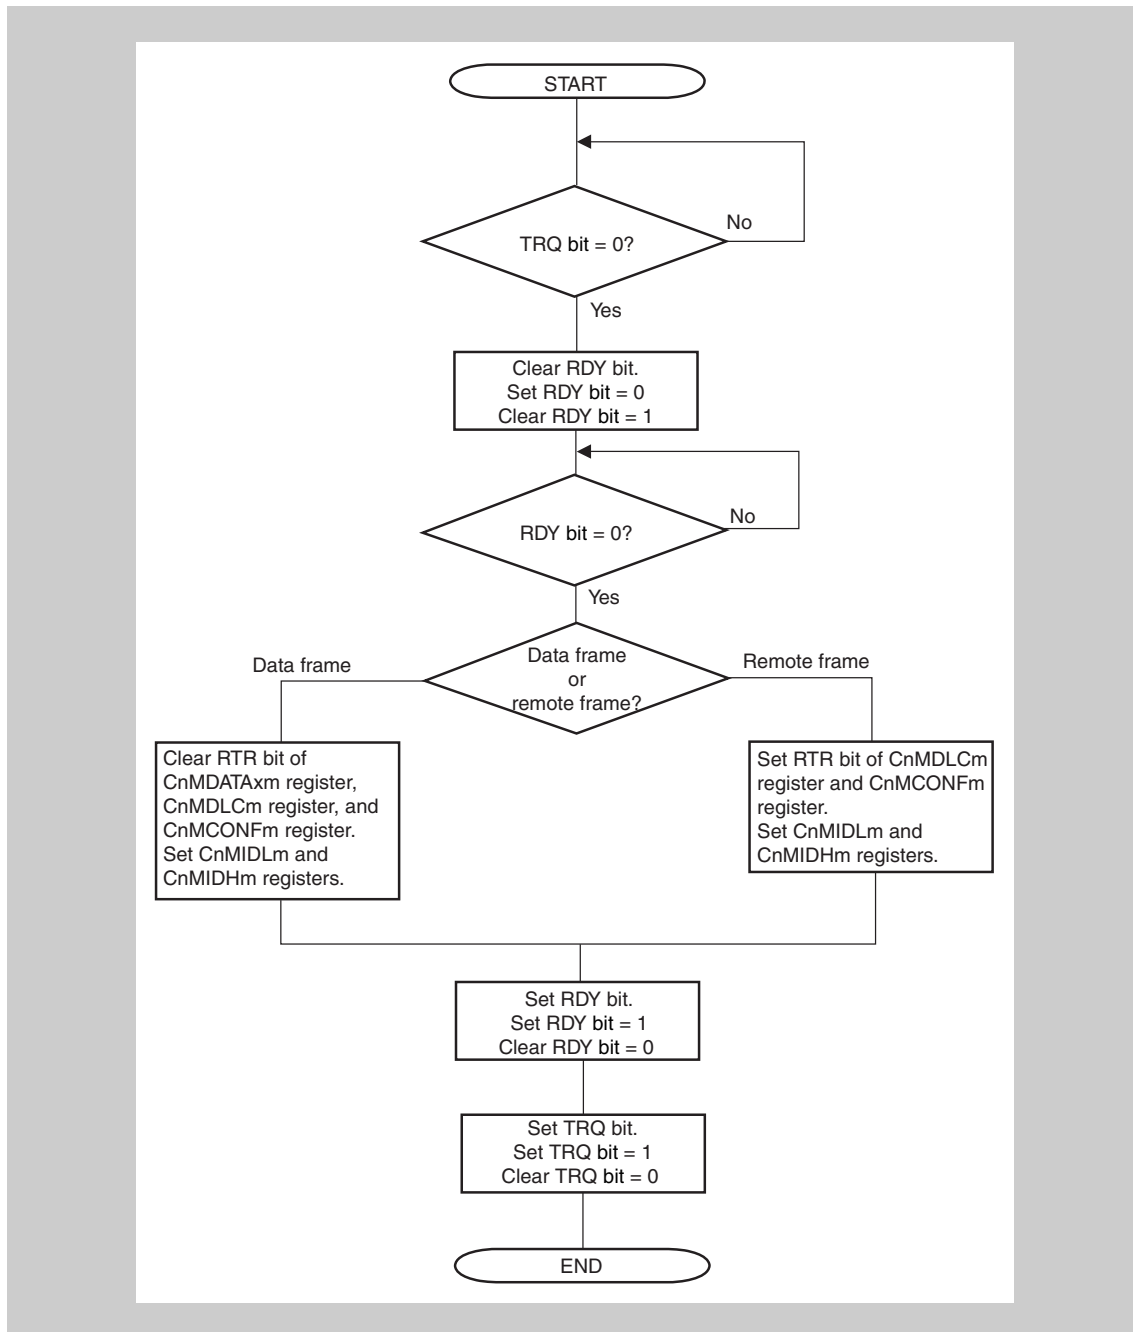

Figure 19-38 Message transmit processing (normal operation mode)
Figure 19-38 shows the processing for a transmit message buffer (CnMCONFm.MT2 to CnMCONFm.MT0 bits = 000B).
**Note** This processing (normal operation mode with ABT) can only be applied to message buffers 0 to 7. For message buffers other than the ABT message buffers, see *Figure 19-38 on page 749*.